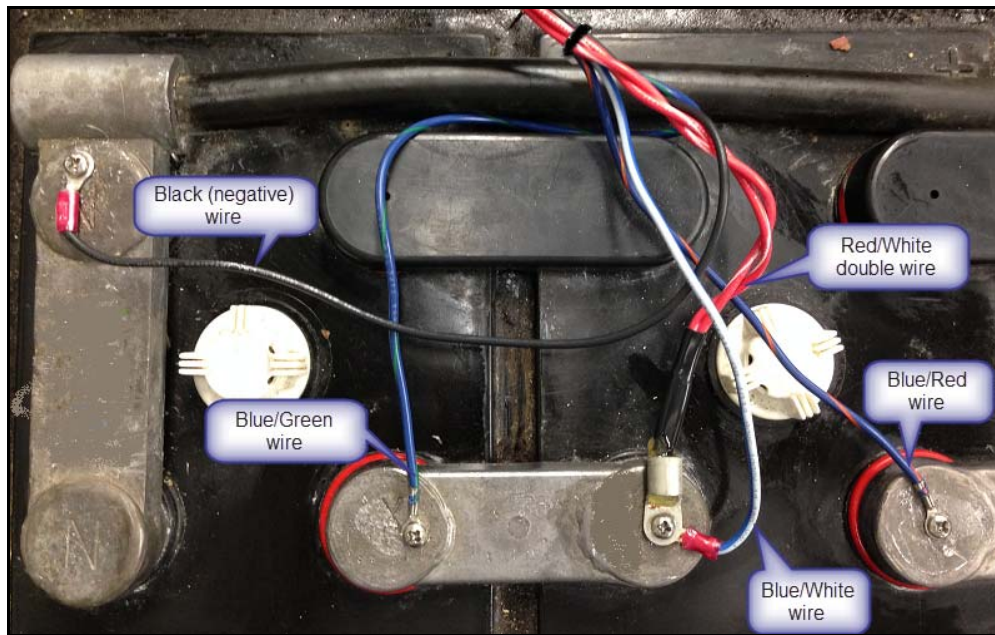

Figure 1: Battery Terminals (WBID Lead Connections)
4. Using a 3/16” drill and a suitable stop to limit the depth of the hole to 1/2”, drill 7 holes for the provided inserts as shown in Figure 1.